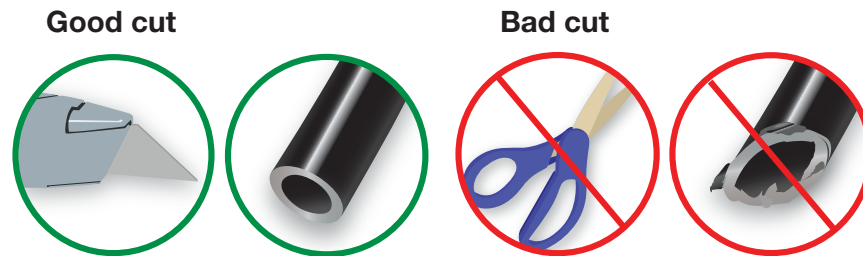

fig. 10
- Route air line to inlet port of the compressor. Measure and cut squarely to appropriate length (Fig. 10). Make sure when routing you keep away from sharp edges and you allow for proper bend radius (see *Cutting the Air Lines*) to avoid kinking.
Use a sharp knife or a hose cutter and make clean, square cuts (Fig. 10). Do not use scissors or wire cutters because these tools will deform the air line. Do not cut the lines at an angle. The minimum bend radius for 1/4" air line is 1" (25mm). Air lines are to be installed straight into fittings. Inspect the air line for scratches that run lengthwise. Contact Air Lift customer service if the air line is damaged.